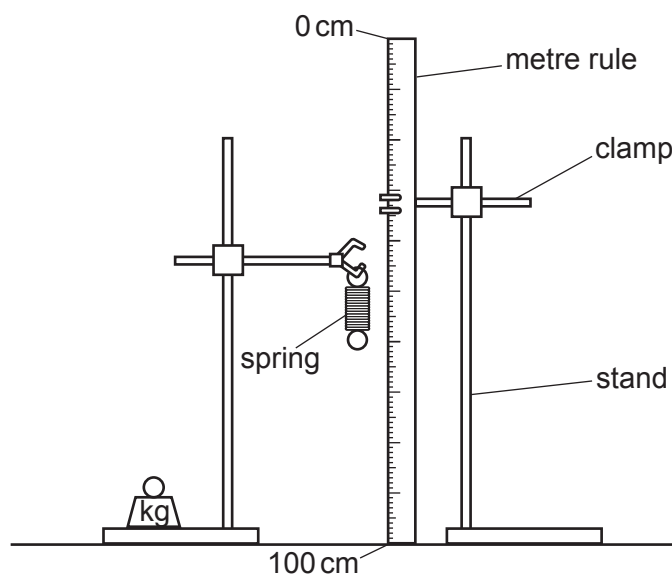

Fig. 3.1
- 1 The apparatus is to be set up for candidates as shown in Fig. 3.1. The spring must be sufficiently high above the bench so that when a 500g mass is suspended from the spring, the bottom of the load is above the surface of the bench.
Restore the apparatus to the set-up shown in Fig. 3.1.